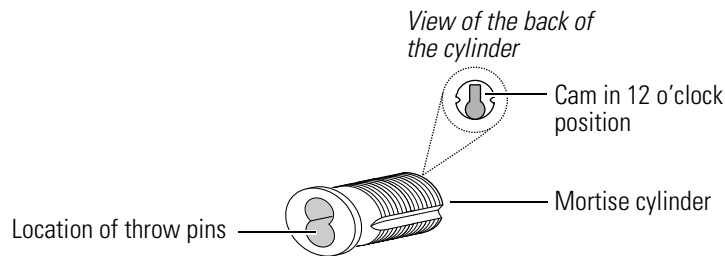

Figure 8.6 Mortise cylinder components
2. Rotate the cylinder cam to the 12 o'clock position, as shown in Figure 8.6.
3. Using a cylinder wrench (ED211), insert the cylinder through the cylinder opening in the B.A.S.I.S. escutcheon and screw the cylinder into the mortise case. Make sure that the cylinder is oriented as shown in Figure 8.6.